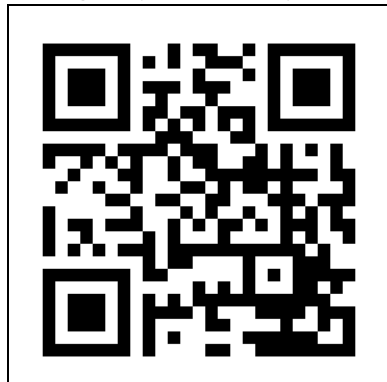

Figure 16
1. Open the Eurom Smart app manual with the QR code (Figure 16) or go to www.eurom.nl/nl/manuals.
2. Disconnect the power plug from the power outlet (Figure 16).